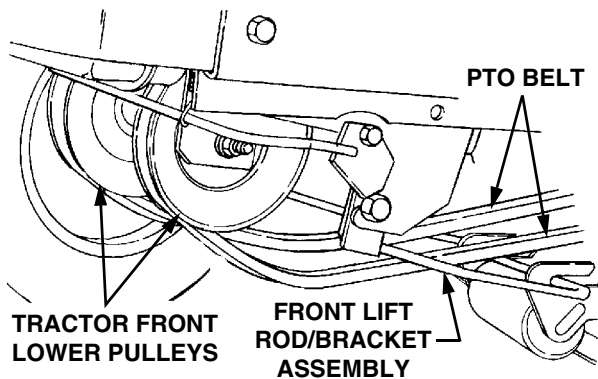

Figure 51
11. Twist the two sides of the PTO belt 1/4 turn inward to engage the narrow sides of the belt into the grooves of the two tractor front-lower pulleys (See Figure 51).